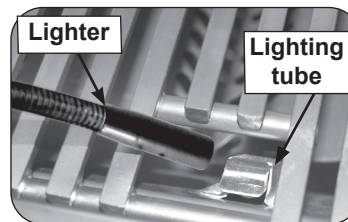
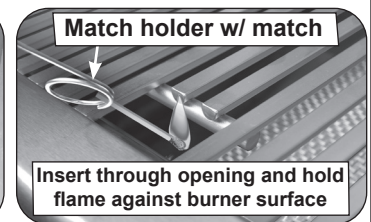

Fig. 25-2 Manual lighting via lighting tube
Fig. 25-3 Manual lighting via match holder
2. Insert either a burning long-barrel butane lighter or a burning long-stem match through the cooking grid opening to the top of the lighting tube (see Fig. 25-2). For backburners or infrared burners, hold the flame against the surface of the backburner/infrared burner. For side burners, hold the flame against the burner. Grills equipped with an infrared burner include a wire extension match holder (attached to drip tray) to assist with manual lighting (see Fig. 25-3).
4. If the burner does not light within five (5) seconds of turning the control knob, **immediately depress the knob and turn the valve to OFF**. **WAIT FIVE (5) MINUTES** before repeating steps 2 through 4 of the **MANUAL LIGHTING** instructions.